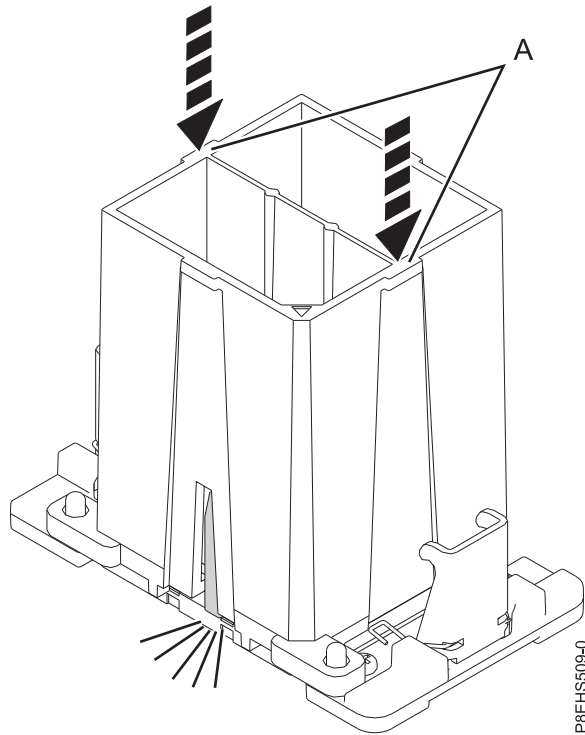

Figure 127. Locking the system processor module into the tool
- c. With the removal tool (A) sitting on top of the system processor module, push down on the tool to lock the system processor module into the tool as shown in Figure 127 on page 109. Make sure that both of the tool jaws are locked on the system processor module. Do not press the blue release tabs until directed to do so later.